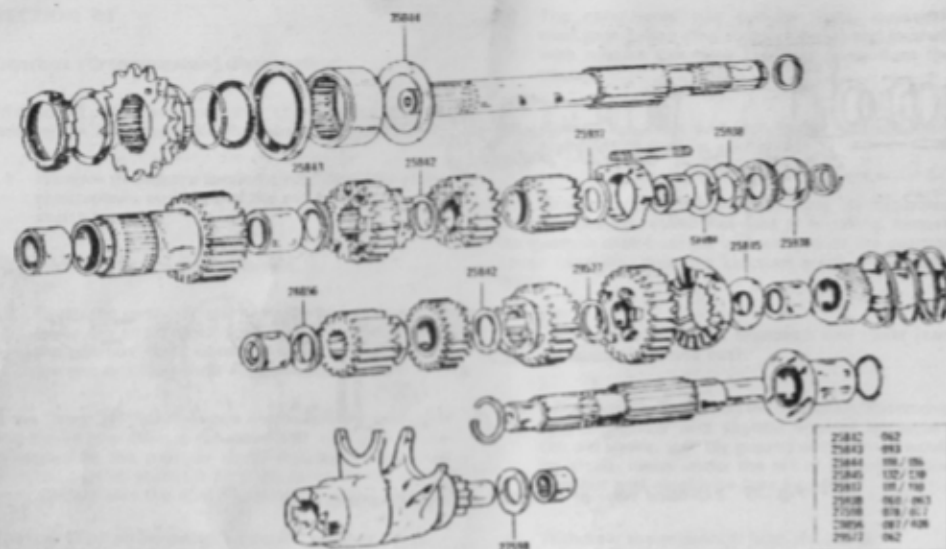

Fig. 36 Gear cluster indicating position and thickness of all thrust washers.
It is assumed that all components have been cleaned, inspected and renewed as necessary following Section D7. The order of assembly of the thrust washers is shown in Fig. 36.
- 2 Reassemble the mainshaft gear cluster - slide thrust washer 25842 (see Fig. 36) onto the shaft followed by the second gear pinion, square section circlip (which must bed completely into the groove) low gear and thrust washers 25937 (111 in., 110 in., i.e. 2.81 mm-2.80 mm).
It is assumed that all components have been cleaned and inspected as in Section D7. See Fig. 36 for the position of the washers.